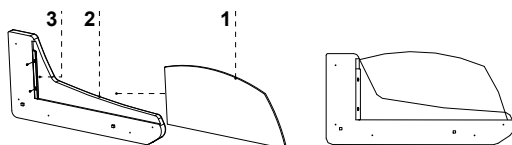

Fig.5 Assembly/disassembly of the glass side
2. Mount glass sides Fig. 5/1 (p.18)
2. Mount glass sides Fig.5/1 (p.18)